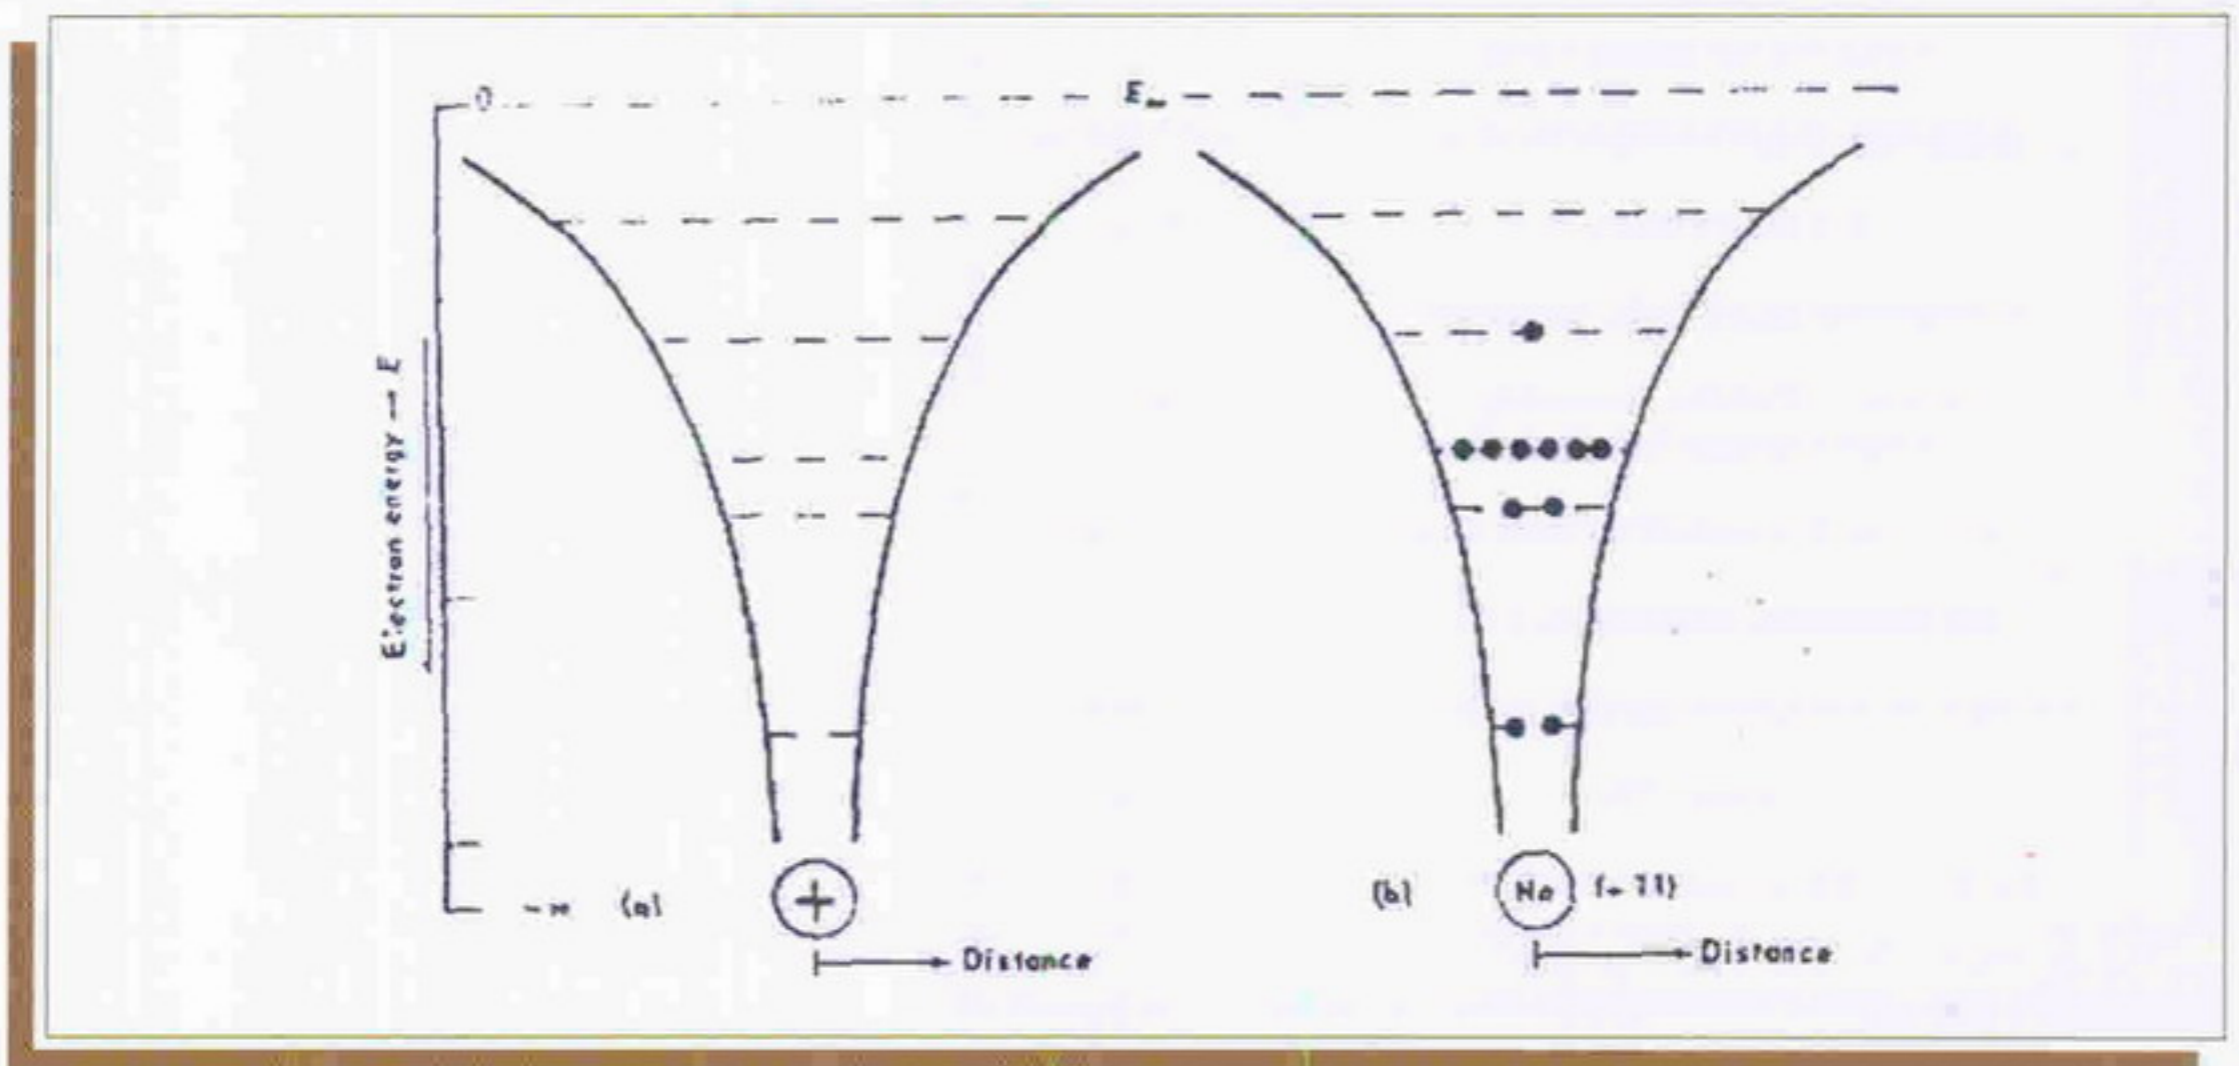

FIG. 22
Figure 22(9) depicts energy level scheme for an atom at room temperature. The energy scale shows negative values for the electron energy; they increase numerically as the electron nears the nucleus. The dotted lines represent discrete stable configurations where the electrostatic attractions (forces) of the nucleus for an electron are balanced by centrifugal forces. In Figure 22(6) are schematically indicated the first five energy levels for a sodium atom with 11 electrons in the orbital structure. The electrons in the first three levels, being closer to the nucleus, have lower (more negative) potential energies as a result of greater electrostatic attraction to the nucleus. The single electron in the , fourth level, being much farther from the nucleus and therefore least tightly held, has the highest energy and is most easily removed. This single electron in the upper level is known as the valence electron.